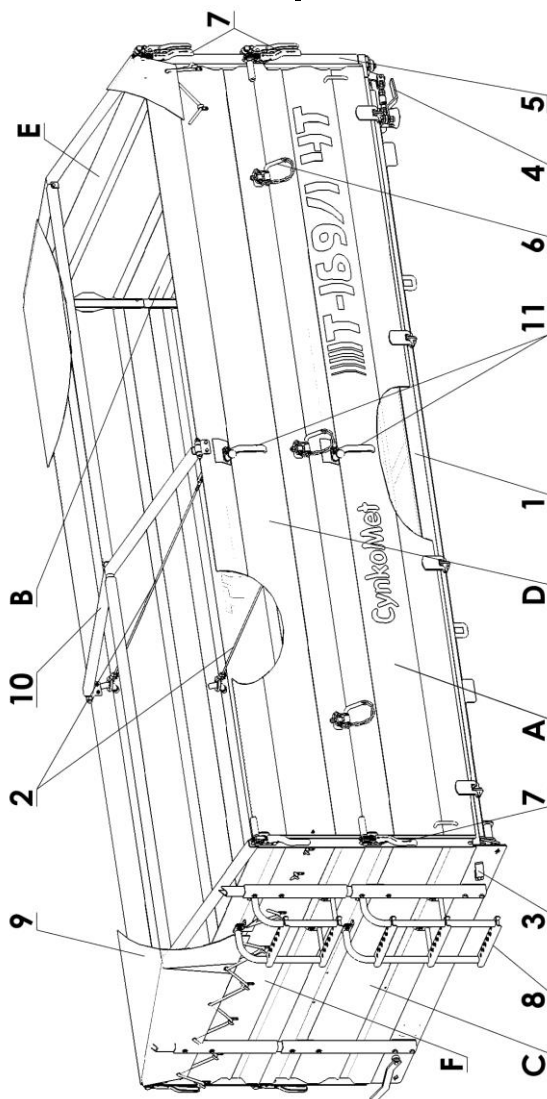

Figure 6. Trailer chassis.
The load box of the trailer (fig. 6) is formed by the upper frame (1) with a welded steel floor, walls A, B, C and wall extensions D, E, F (wall extensions are not part of standard trailer equipment).